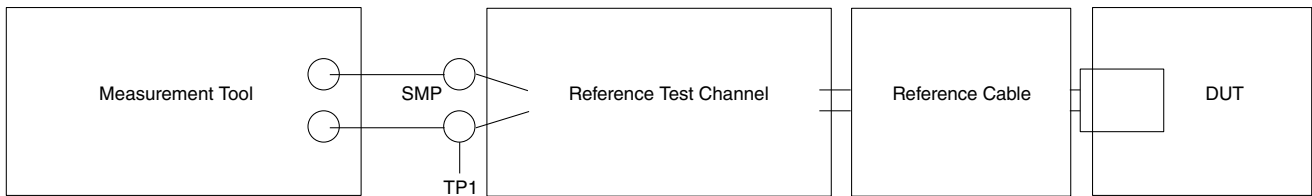

Figure 26. Transmit normative setup
1. Measured at compliance TP1. See Figure 26 for details.